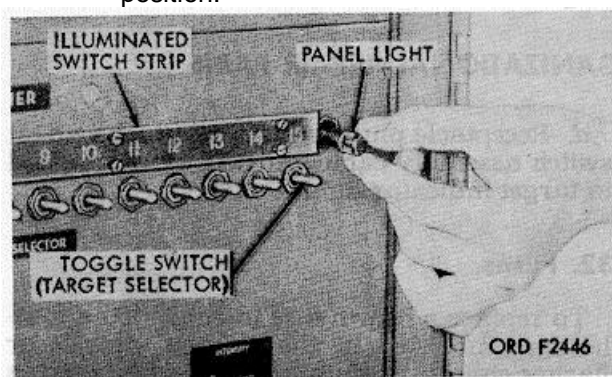

Figure 15. Removing or installing panel light
- (1) Place power switch in the OFF position.
- (2) Unscrew knurled cap of panel light (fig. 15) by turning it counterclockwise.
- (3) Remove burned out lamp from end of cap and insert new lamp 6240-1557836 into cap.
- (4) Insert cap into panel light socket and secure by turning it clockwise until tight.